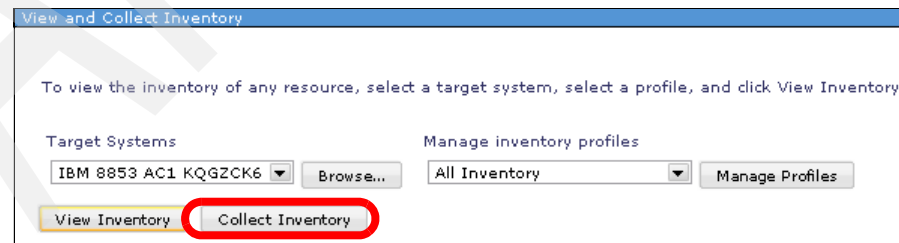

Figure 3-9 Collect Inventory
3. In the View and Collect Inventory window, shown in Figure 3-9, select IBM Systems Director server by clicking **Browse** under Target Systems. Then click **Collect Inventory**.